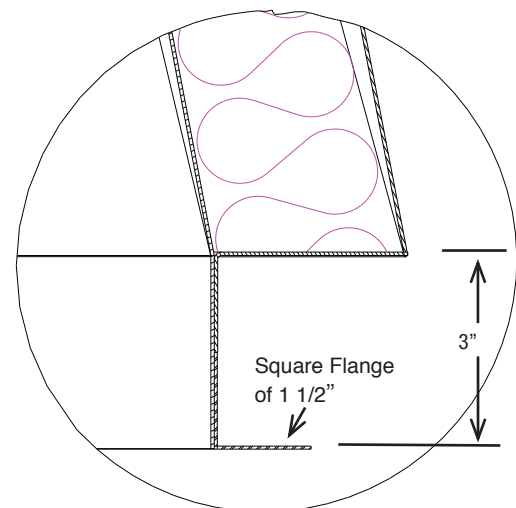

Figure 98b: Option 2 for the STR and ESTR
Option 2: A Flange at the square end to be used for a bolted or welded connection in accordance with NFPA 96. See **Figure 98b**.
- 2- Options for the square end (See **Figure 98a** and **Figure 98b**)